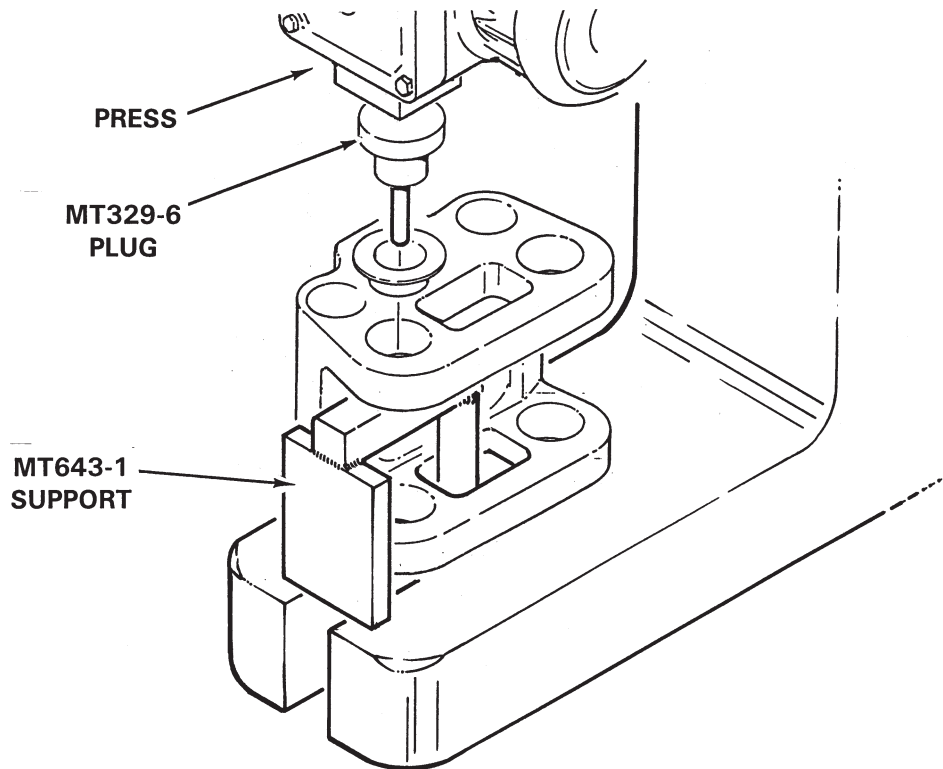

FIGURE 62-6 MAIN ROTOR HUB BEARING INSTALLATION
7. Refer to Figure 62-6. If seam of bearing Teflon liner is visible, orient bearing so seam is toward top of hub (as installed on helicopter). While primer is still wet, press in new bearing using MT329-6 plug and MT643-1 support (support is not used when pressing in teeter hinge bearings) until bearing flange contacts hub.